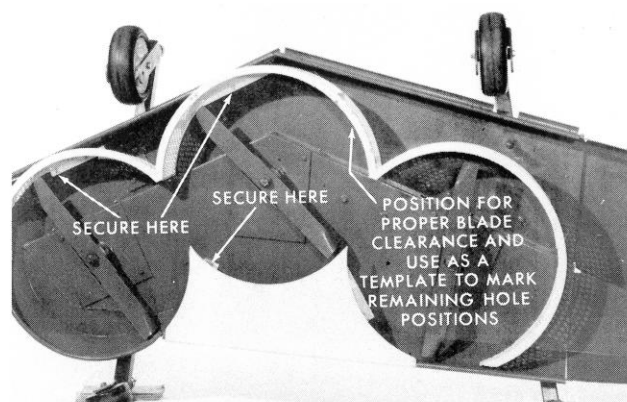

Figure 3
4. Set the mulcher screen and bottom rear shield in position as shown in Figure 3. Secure the screen with 2 capscrews, flat washers and lock washers, and the rear shield with 1 capscrew, flat washer and lock washer.